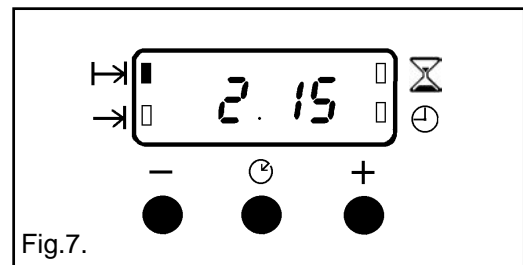

Fig.7.
- iv) To set the length of cooking time, press the Selector Control button until the 'Cook Time' indicator neon (⏰) is illuminated. Press the increase control (+) until the required length of cooking time is displayed, e.g. 2 hrs 15 mins as Fig. 7. If necessary depress the decrease control (-) until the correct time interval is achieved.